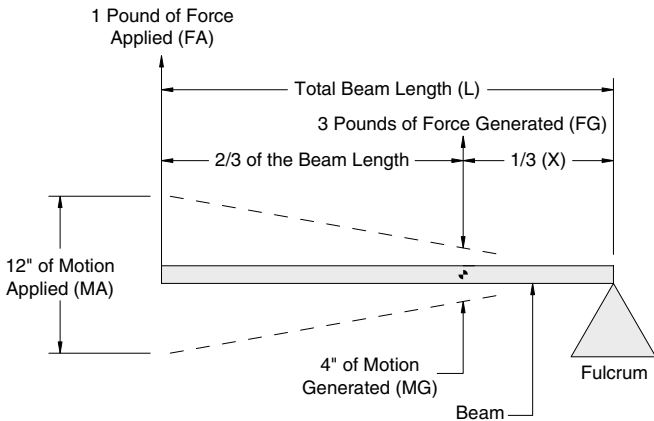

Figure 2-5 Second Class Lever
Figure 2-5 shows a second class lever. A second class lever has the fulcrum placed at the end of the beam and the force is applied at the opposite end. The force generated is at a point between the force applied and the fulcrum. By manipulating the point along the beam, a certain amount of mechanical advantage can be achieved. Placing 1 pound of force (FA) on the left end of the beam, generates 3 pounds of force (FG) at the point within the beam. The amount of travel is also transformed. In the illustration, 12 inches of motion (MA) on the left end of the beam translates to 4 inches of motion (MG) at